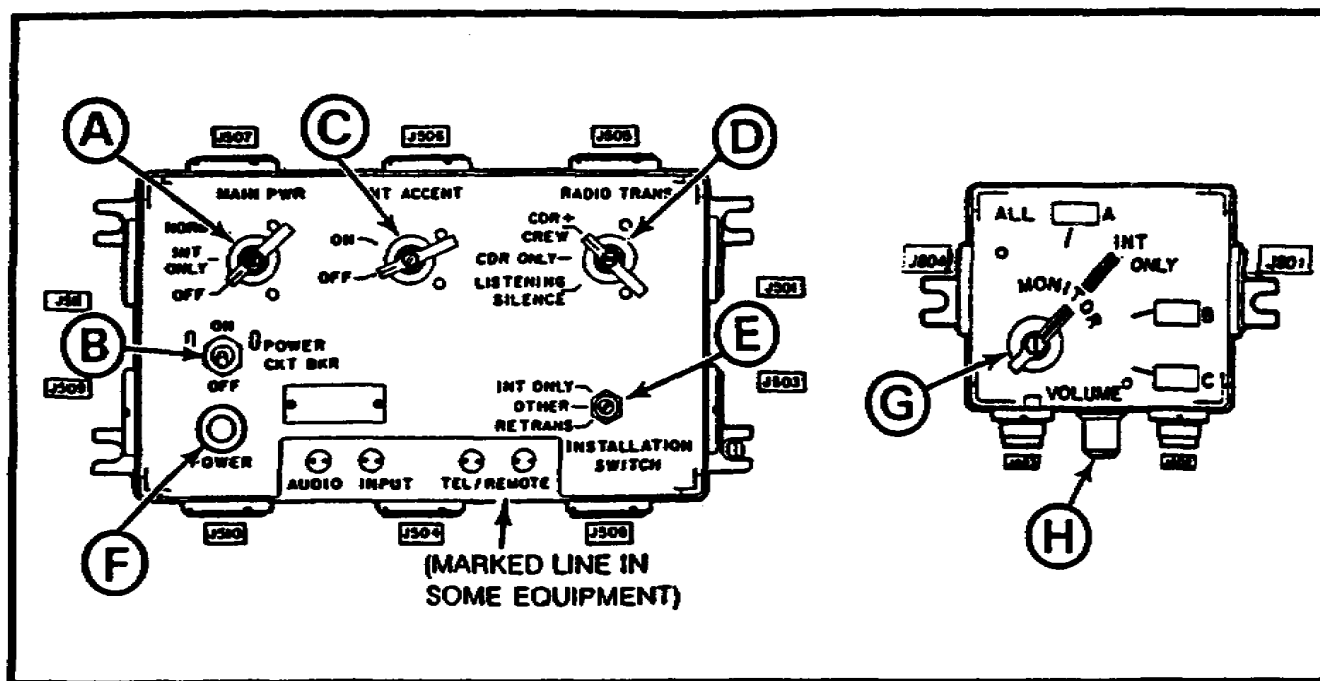

Figure 13. AM-1780 and C-2298 controls set for intercom operation.
q. See Figure 13. Before going on, let's look at how the intercom controls should be preset. First, the setting of the controls of the AM-1780:
- (A) MAIN PWR switch to INT ONLY.
- (B) POWER CKT BKR to ON.
- (C) INT ACCENT to OFF.
- (D) RADIO TRANS switch to any of its three positions: CDR+CREW, CDR ONLY, or LISTENING SILENCE.
- (E) INSTALLATION SWITCH to INT ONLY.
- (F) POWER lamp lens cover CCW to STOP.